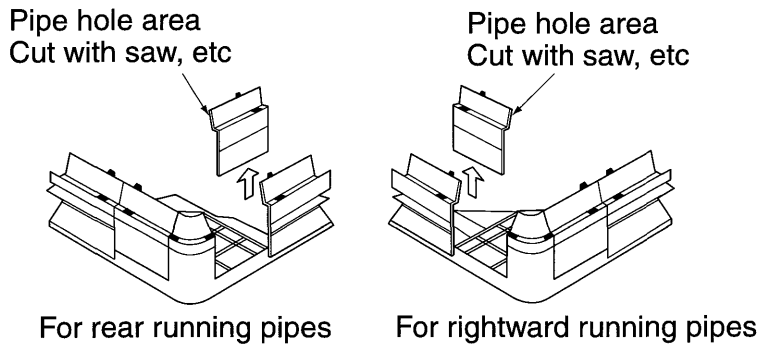

Fig. 35
- For upward or rightward running pipes, cut the corner covers as shown at Fig. 35 before attaching them.
- (Refer to Fig. 35)